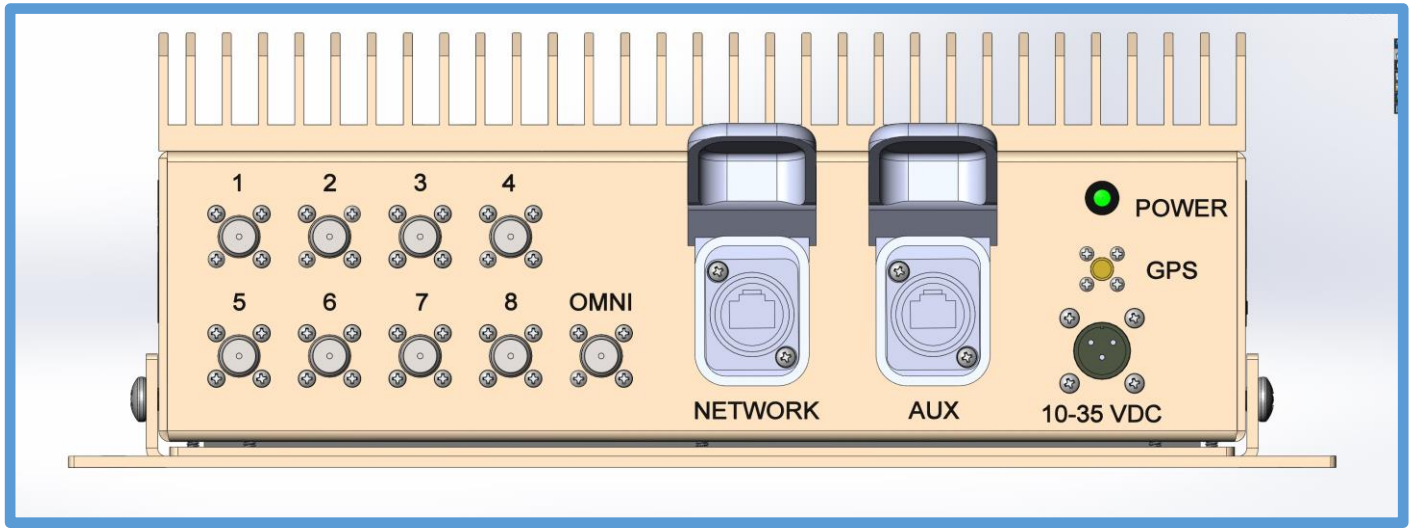

Figure 2. SkyView-DIVR MKII Integrated RF Processor (Front Panel / Front Panel Detail)
The SkyView-DIVR MKII Integrated RF Processor is the core computational and radio-frequency (RF) processing component of the SkyView-DIVR MKII system. In conjunction with the SkyView-DIVR MKII antenna array, this component continuously monitors RF spectrum for sUAS signatures to provide long-range detection, alerting, and tracking functions. The main panel of the SkyView-DIVR MKII is depicted in Figure 2.